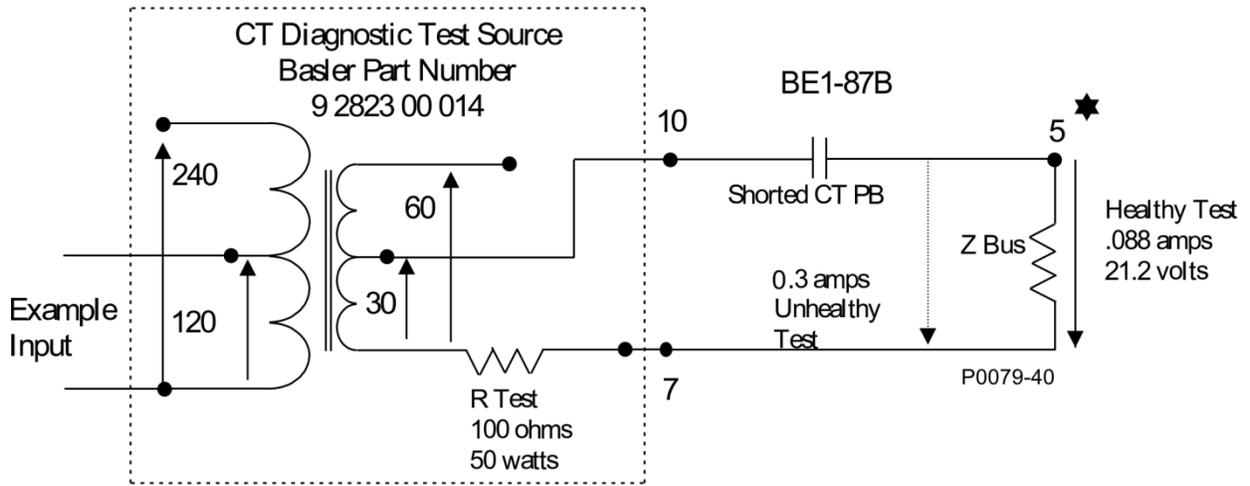

**Figure 4-9. Voltage Appearing Across Full Winding of CT**
The following calculations are based on a seven-breaker bus as shown in Figure 4-9. For this example, 1200/5 CTs are used, all on the same ratio and same accuracy class as per Figure 4-6.
- In our example case, 7 CTs are in parallel with a relay input impedance of 5k ohms resulting in an equivalent impedance of 240 ohms (refer to Figure 4-9).